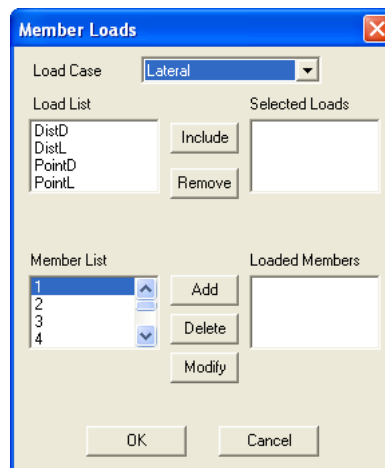

Figure 3-31 Member Loads dialog box
- From the **Analyze** menu, select **Member Loads**. The dialog box of Figure 3-31 appears.